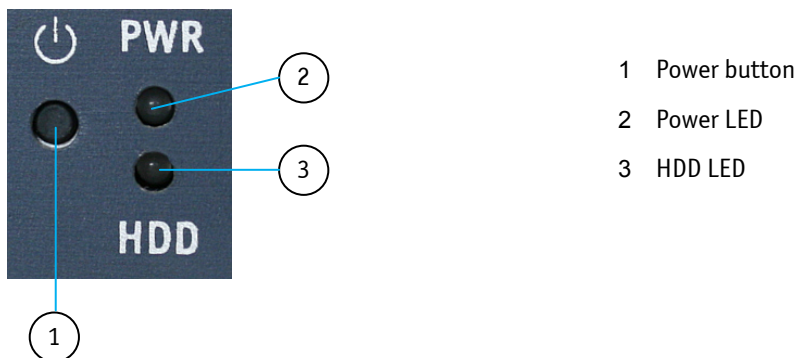

Fig. 10: KBox A-101 - Controls and indicators
Press this button (Fig. 10, pos. 1) to switch the system on or off.
The power LED (Fig. 10, pos. 2) and the HDD LED (Fig. 10, pos. 3) are located on the front side of the KBox A-101 and indicate the system status. If an error occurs, the system will be turned off and the power LED will be blinking red.